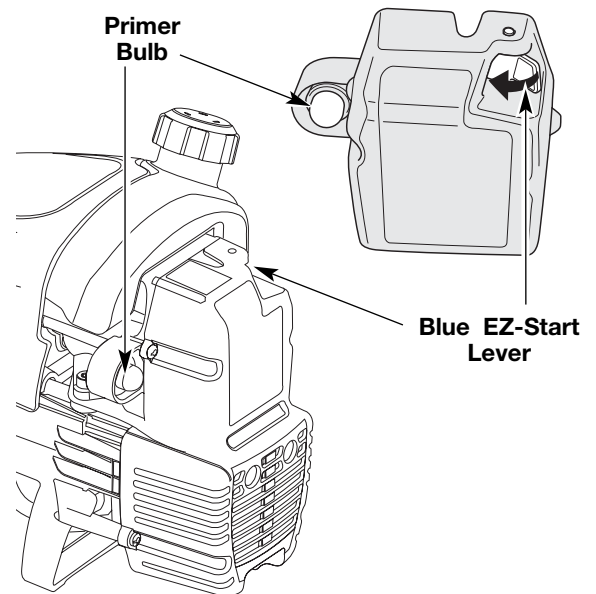

Fig. 7
2. Fully press and release the primer bulb 10 times, slowly. Some amount of **fuel should be visible in the primer bulb** and fuel lines (Fig. 7). If you can't see fuel in the bulb, press and release the bulb as many times as it takes before you can see fuel in it.
3. **Push the blue EZ-Start™ lever towards the primer bulb** until it clicks and locks into place (Fig. 7).